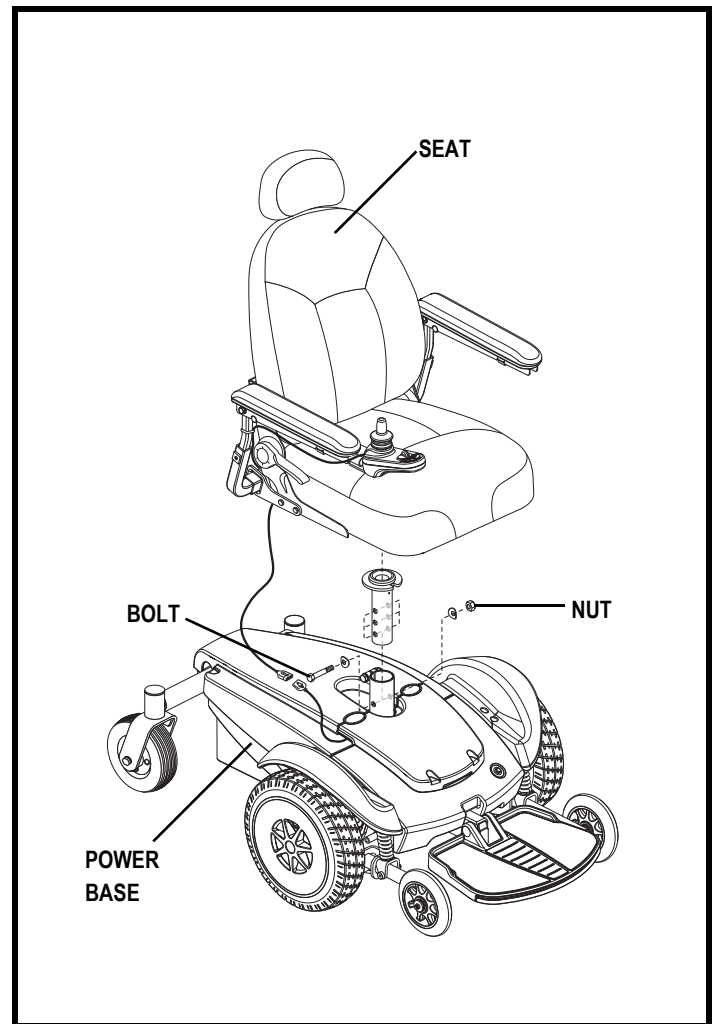

Figure 12. Seat Height Adjustment
4. Remove the nut and bolt from the seat post. See figure 12.